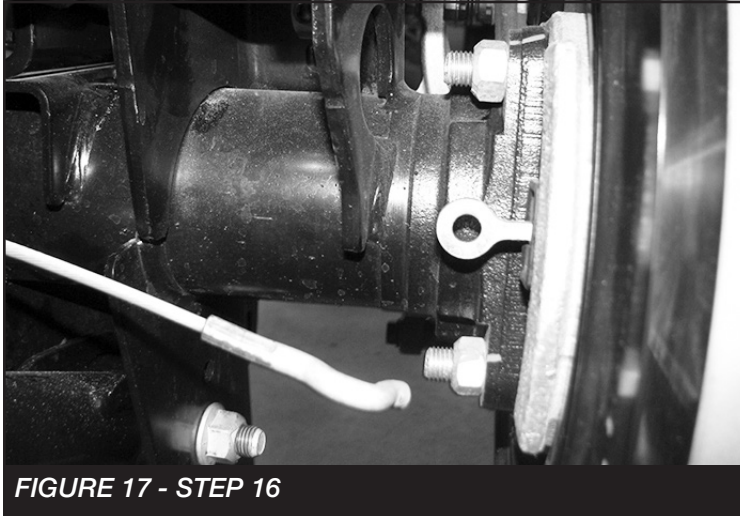
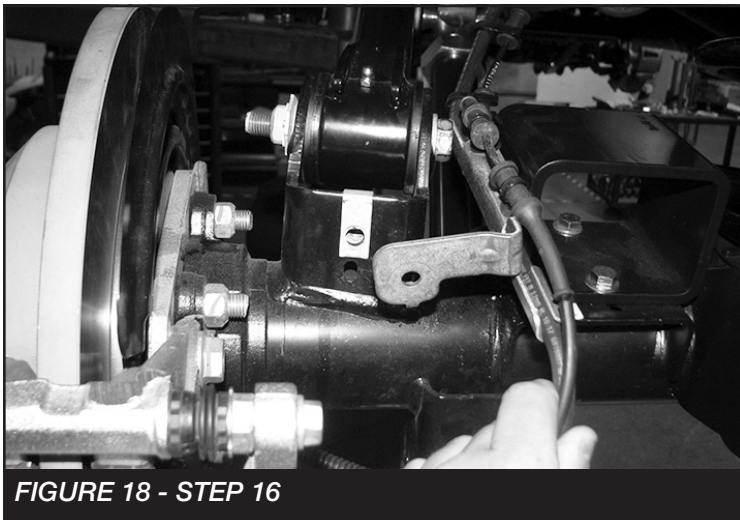

FIGURE 17 - STEP 16
FIGURE 18 - STEP 16
16. Disconnect the e-brake cables behind the rotor. **SEE FIGURE 17.** Next, Disconnect the brake line from the axle link pocket. **SEE FIGURE 18.**